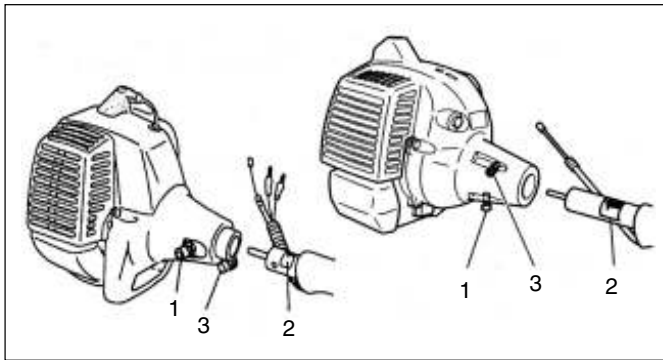

Fig. 1-1
(En) Drive shaft to engine (Fig. 1-1)
2. Make sure the lock pin (1) fits in the location hole (2) of tube and that the tube will not come off. (Fig. 1-1 B)
(Fr) Arbre d'entraînement du moteur (Fig. 1-1)
(It) Montaggio dell'albero trasmissione al motore (Fig. 1-1)